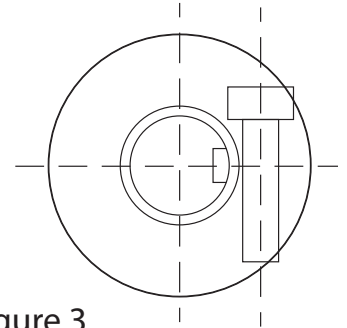

Figure 3
- 3) Insert the motor shaft into the gearbox input hub, with the motor shaft keyway (if present) aligned with the gearbox input shaft clamp opening. Be sure to align the collet gap over the flat and the set collar perpendicular to the flat. (Figure 3).